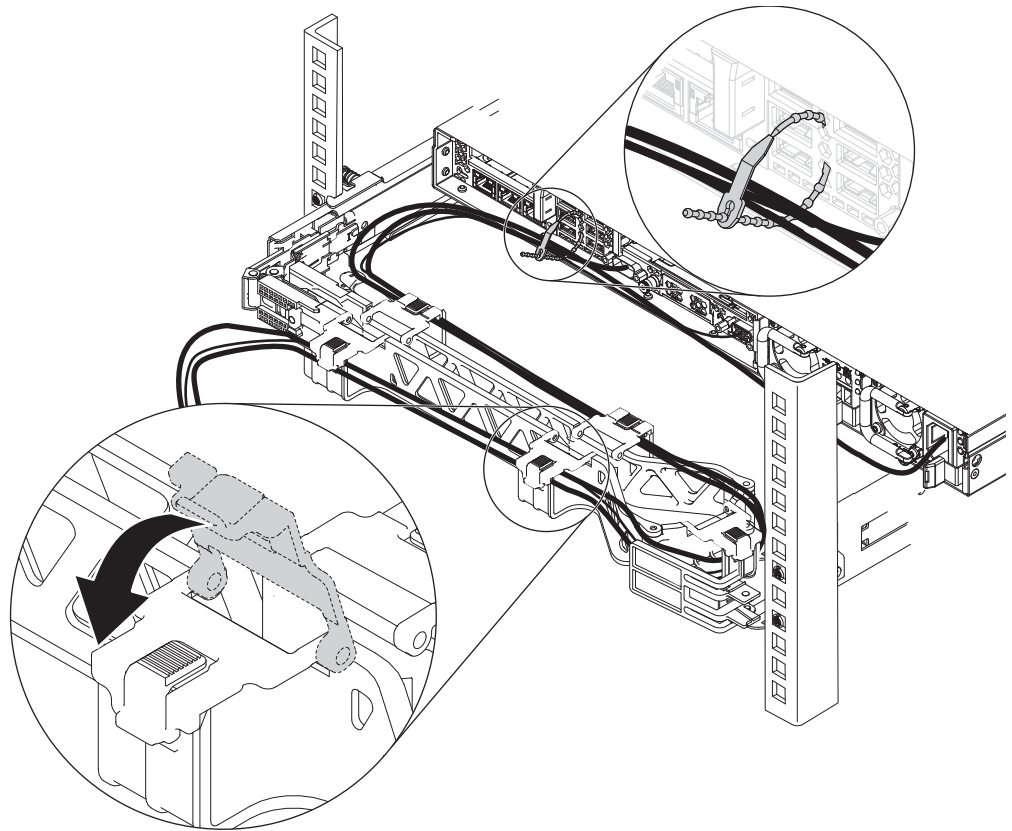

Figure 32. Connecting and routing the cables
6. Connect and route the cables as shown in Figure 32 on page 31.